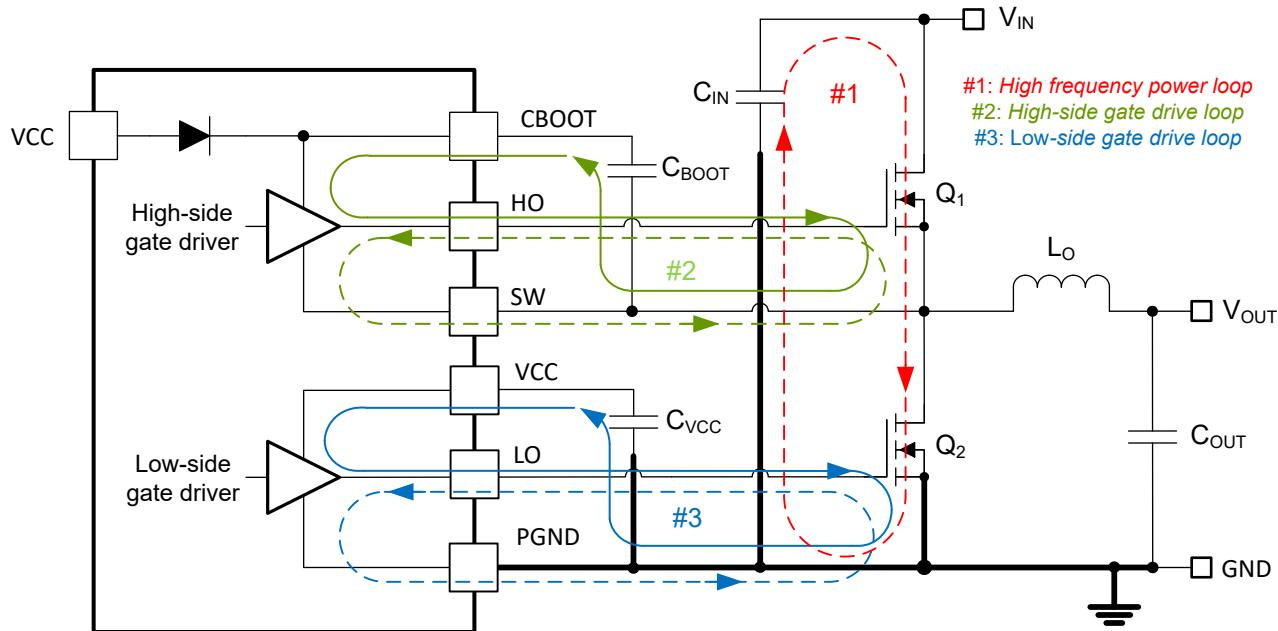

Figure 9-47. DC/DC Regulator Ground System With Power Stage and Gate Drive Circuit Switching Loops
Proper PCB design and layout is important in a high-current, fast-switching circuit (with high current and voltage slew rates) to achieve a robust and reliable design. As expected, certain issues must be considered before designing a PCB layout using the LM5149-Q1. The high-frequency power loop of a buck regulator power stage is denoted by loop 1 in the shaded area of Figure 9-47. The topological architecture of a buck regulator means that particularly high di/dt current flows in the components of loop 1, and it becomes mandatory to reduce the parasitic inductance of this loop by minimizing its effective loop area. Also important are the gate drive loops of the high-side and low-side MOSFETs, denoted by 2 and 3, respectively, in Figure 9-47.
- Loop 1: The most important loop area to minimize is the path from the input capacitor or capacitors through the high- and low-side MOSFETs, and back to the capacitor or capacitors through the ground connection. Connect the input capacitor or capacitors negative terminal close to the source of the low-side MOSFET (at ground). Similarly, connect the input capacitor or capacitors positive terminal close to the drain of the high-side MOSFET (at V_{IN}). Refer to loop 1 of Figure 9-47.
5. The SW pin connects to the switch node of the power conversion stage and acts as the return path for the high-side gate driver. The parasitic inductance inherent to loop 1 in Figure 9-47 and the output capacitance (C_{oss}) of both power MOSFETs form a resonant circuit that induces high frequency (greater than 50 MHz) ringing at the SW node. The voltage peak of this ringing, if not controlled, can be significantly higher than the input voltage. Make sure that the peak ringing amplitude does not exceed the absolute maximum rating limit for the SW pin. In many cases, a series resistor and capacitor snubber network connected from the SW node to GND damps the ringing and decreases the peak amplitude. Provide provisions for snubber network components in the PCB layout. If testing reveals that the ringing amplitude at the SW pin is excessive, then include snubber components as needed.
- Loop 2: high-side MOSFET, Q_1 . During the high-side MOSFET turn-on, high current flows from the bootstrap (boot) capacitor through the gate driver and high-side MOSFET, and back to the negative terminal of the boot capacitor through the SW connection. Conversely, to turn off the high-side MOSFET, high current flows from the gate of the high-side MOSFET through the gate driver and SW, and back to the source of the high-side MOSFET through the SW trace. Refer to loop 2 of Figure 9-47.
- Loop 3: low-side MOSFET, Q_2 . During the low-side MOSFET turn-on, high current flows from the VCC decoupling capacitor through the gate driver and low-side MOSFET, and back to the negative terminal of the capacitor through ground. Conversely, to turn off the low-side MOSFET, high current flows from the gate of the low-side MOSFET through the gate driver and GND, and back to the source of the low-side MOSFET through ground. Refer to loop 3 of Figure 9-47.